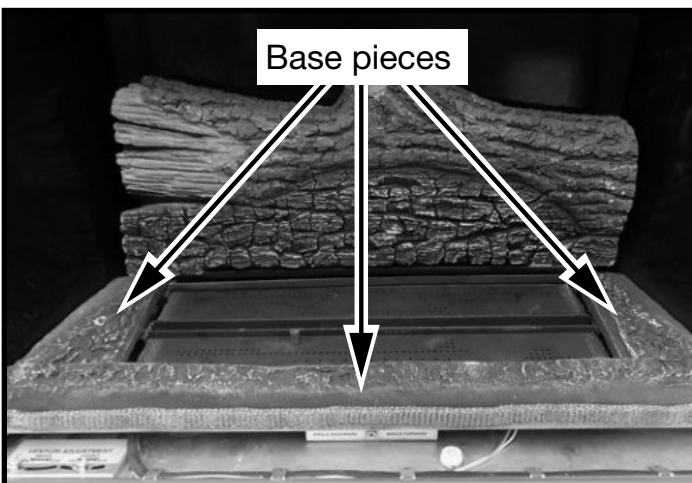

Figure 72: Three base pieces.
7. Install the three base pieces (Figure 54) as shown in Figure 72. The base pieces, in addition to adding an aesthetic dimension to the overall appearance, help to complete an enclosure for holding the vermiculite / glowing ember material pieces on top of the burners. The two side pieces have one hole each to accept the posts protruding from the bottom of logs two and four.